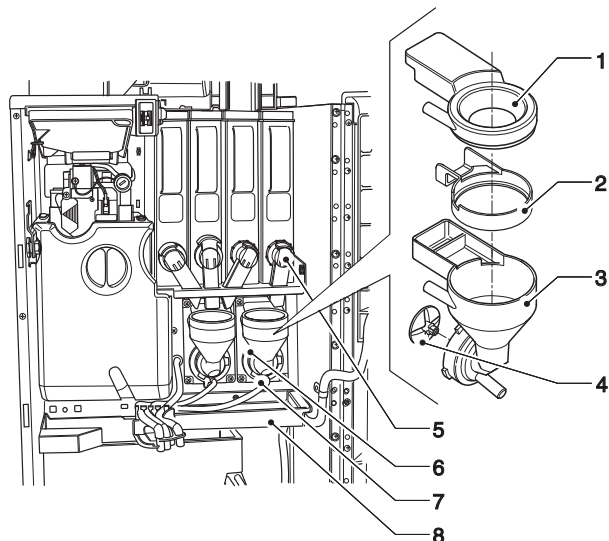

Fig. 8
- Remove (see Fig. 8) the powder funnels, the water conveyors, the powder deposit funnels and the mixer motor fans from the mixers;